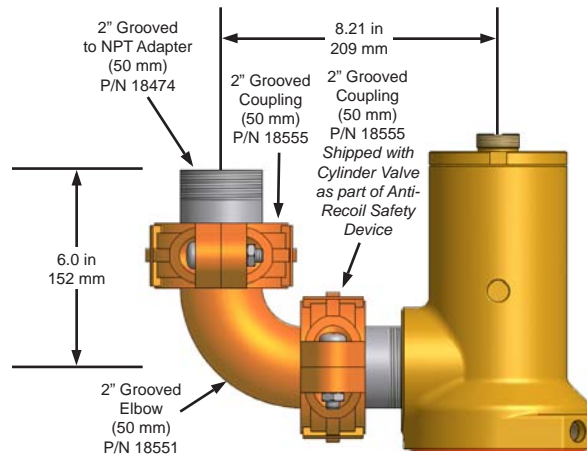

Figure 2.2.5.2 Mv Series Fittings
2.2.5.3 Lv Series Fittings (See Figure 2.2.5.3 for P/N)